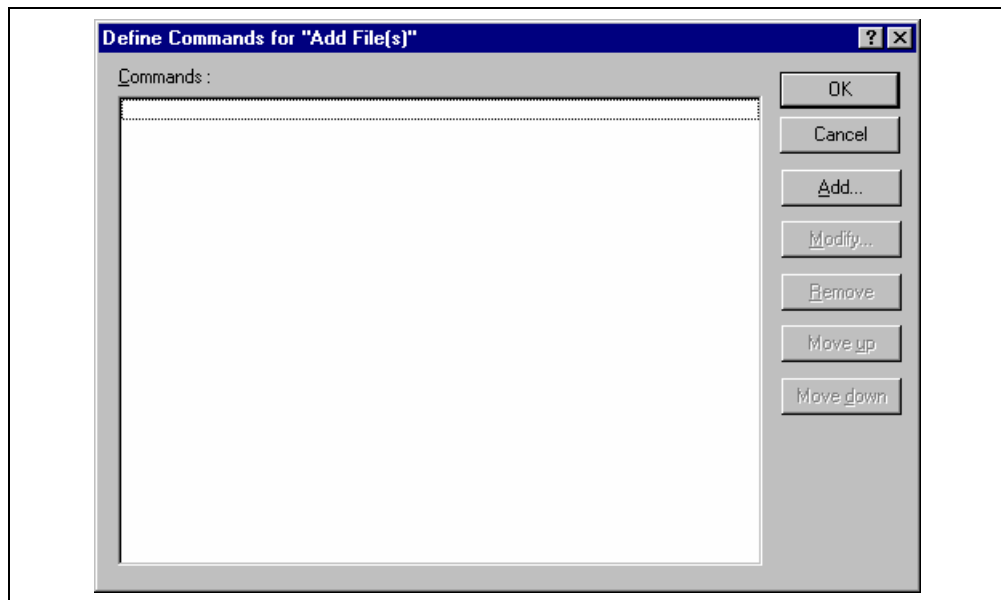
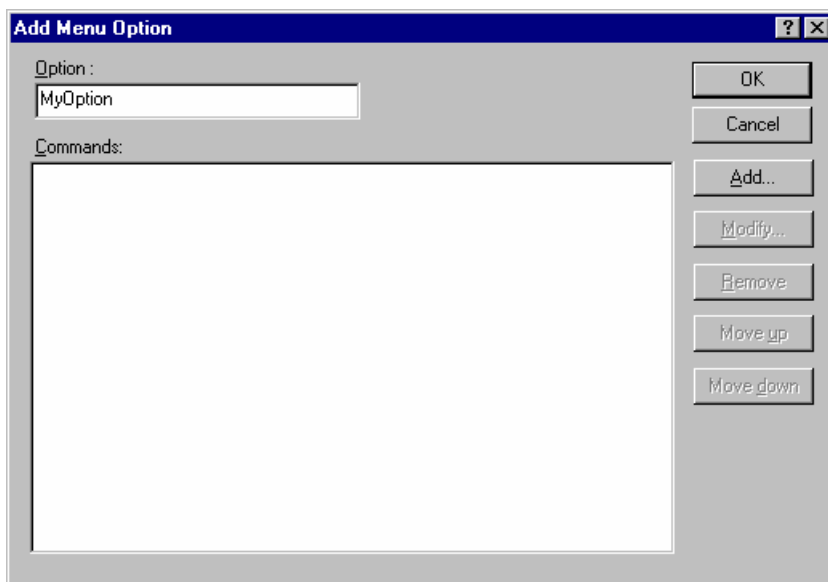
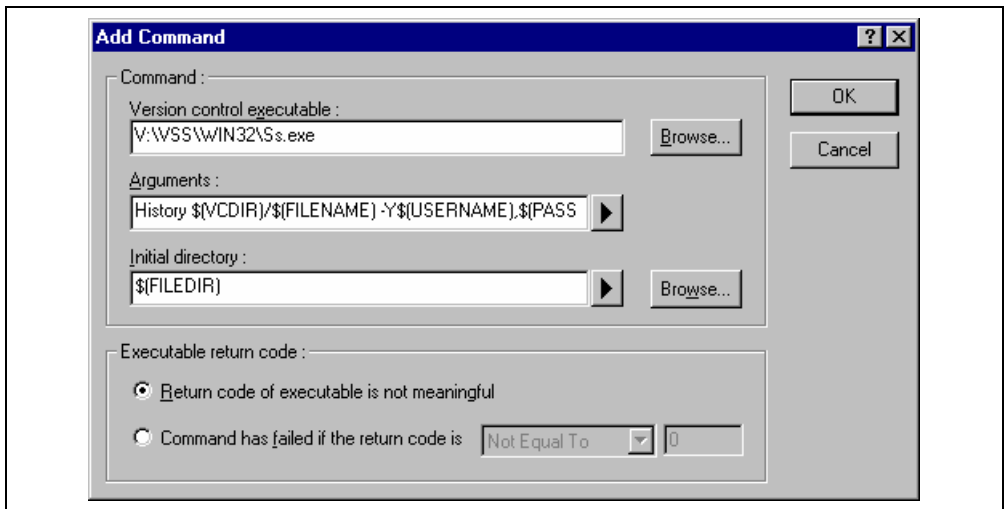

Figure 8.3: Modify System Menu Option (Example)
Figure 8.4: Add Menu Option Dialog
Figure 8.5: Add/Modify Command Dialog
2. Select the option to be modified from the “System menu options and toolbar buttons” list and then click the “Modify...” button. The dialog shown in figure 8.3 will be displayed. This figure shows a dialog when “Add File(s)” has been selected for example.
2. Click the “Add..” button. The dialog shown in figure 8.4 will be displayed.
2. Select the menu option to be modified from the “User menu options” list and then click the “Modify...” button beside the list. The dialog shown in figure 8.4 will be displayed. (The title of the dialog is “Modify Menu Option”.)
Commands are defined when the “Add...” or “Modify...” buttons are clicked on the dialogs shown in figure 8.3 and figure 8.4. In either case, the dialog shown in figure 8.5 is invoked.